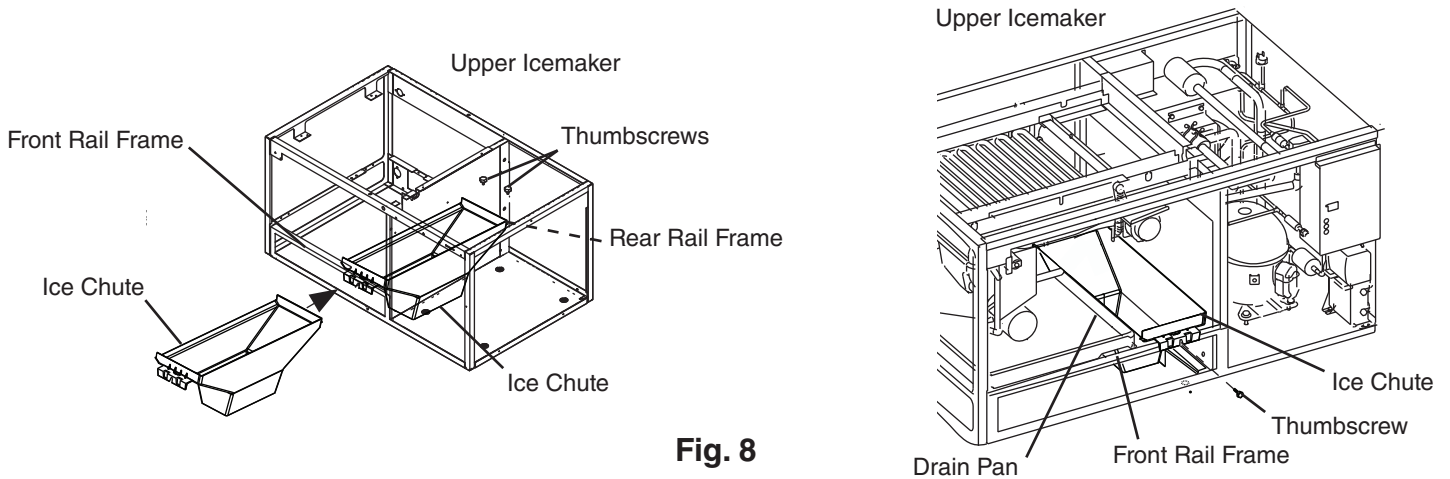

**Fig. 6**
- 15) Remove the 2 plastic separator protector screws, then pull the plastic separator protector out slightly. Slide the water guide provided in this kit, between the plastic separator protector and sheet metal panel. See Figs. 6 and 7. Replace the 2 plastic separator protector screws.